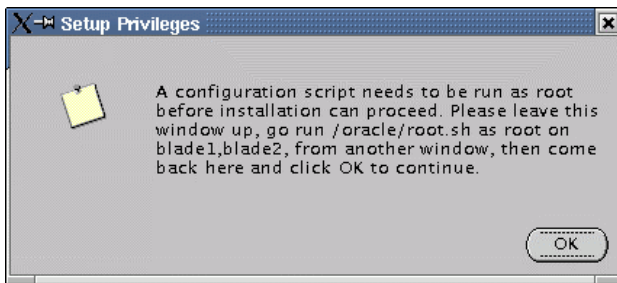

Figure 66. Setup Privileges
4. A progress screen is displayed. After a few minutes, a popup window is displayed, asking to execute a shell script as `root` user on all nodes (Figure 66). Execute the requested shell script as `root` user, then click **OK** on the popup window.